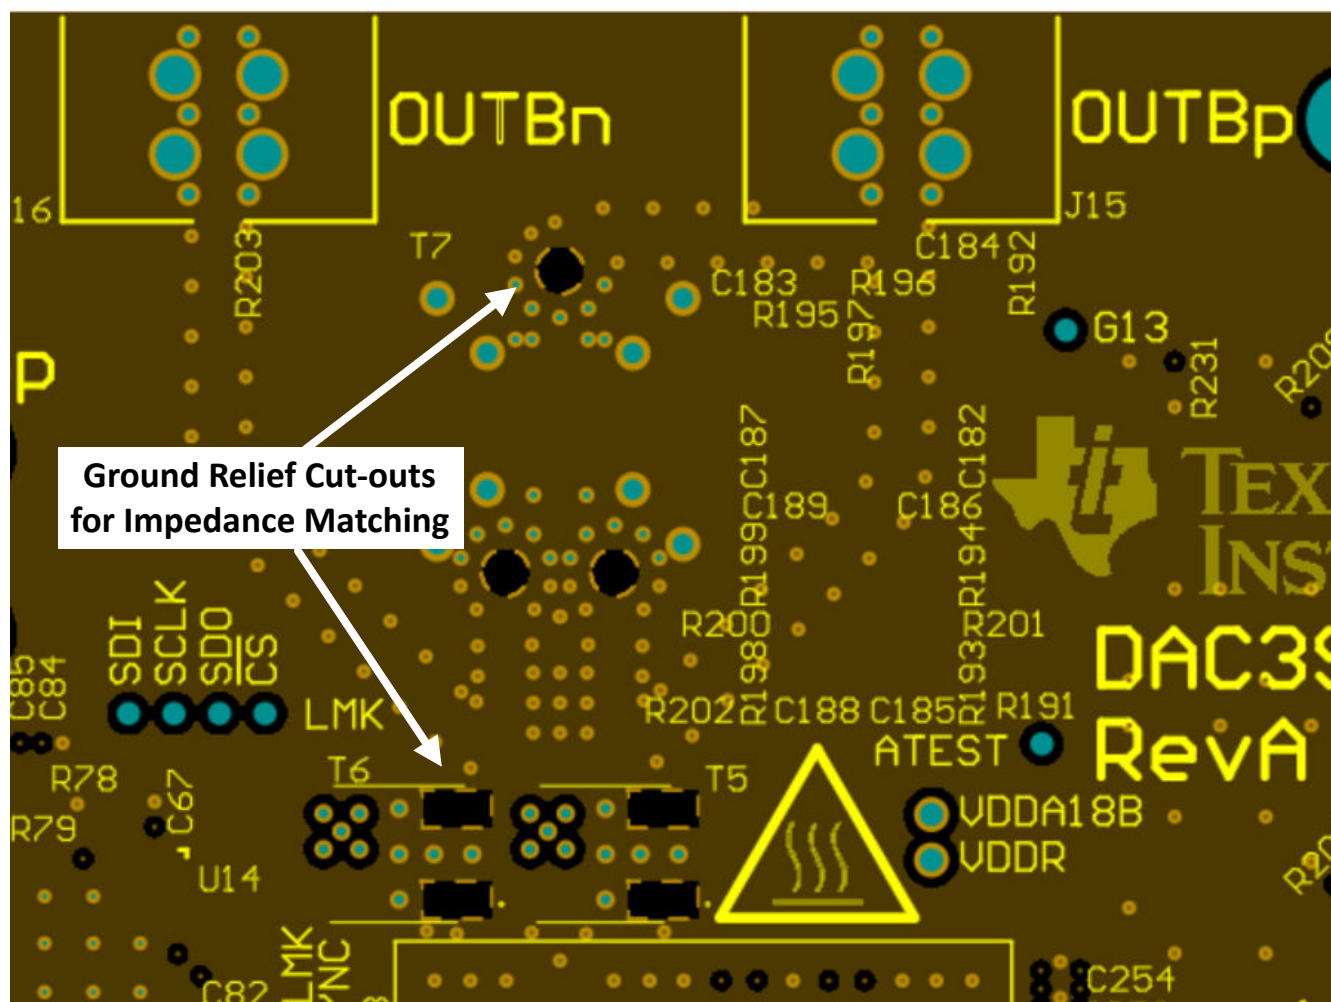
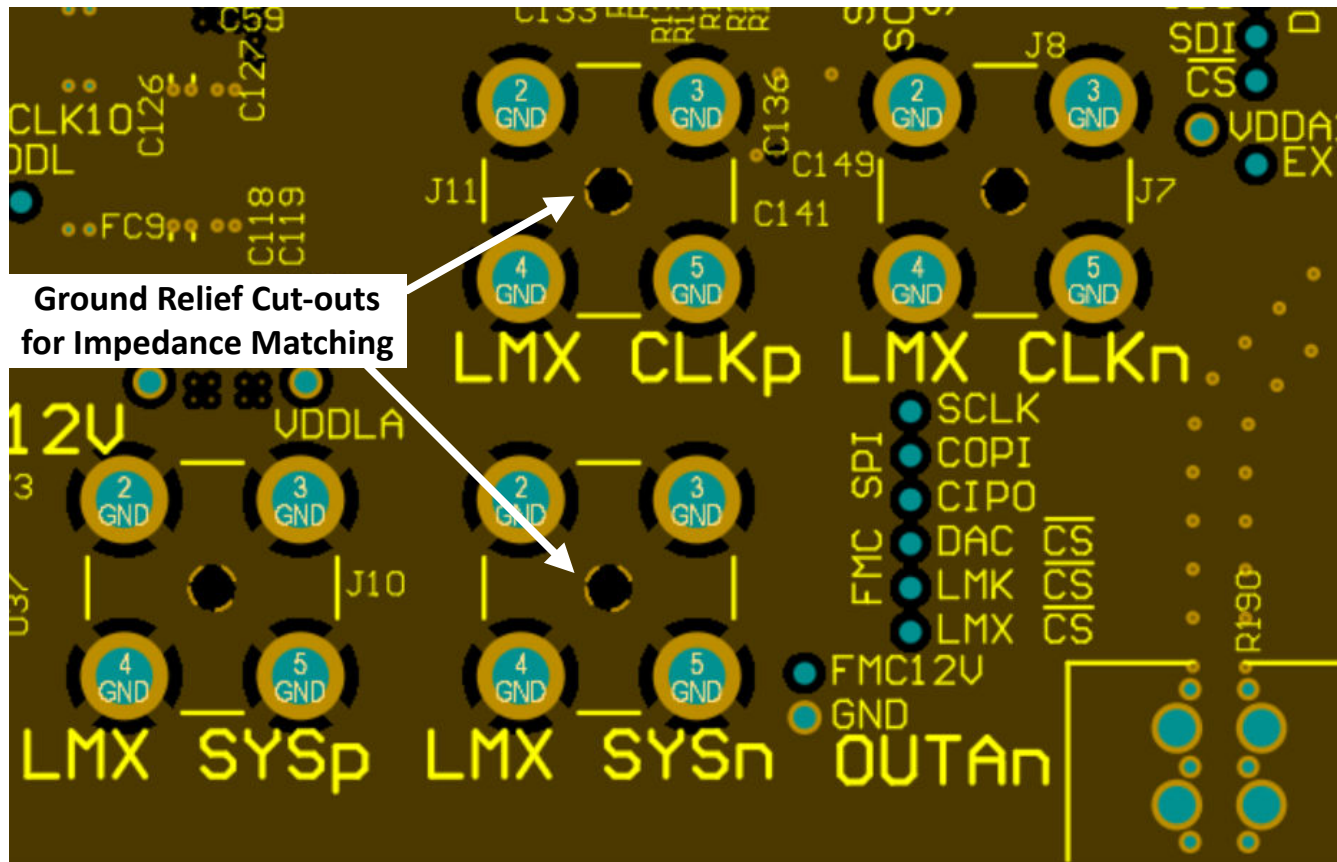

Figure 8-24. Ground Cut-outs below Balun and Bias-T Pins
Figure 8-25. Ground Cut-out Below SMA Connector Center Pin
5. Incorporate any ground plane cutouts necessary at component landing pads, ie – SMA connectors, baluns, etc., to avoid impedance discontinuities at these locations. Cut-outs below these landing pads on one or multiple ground planes to achieve a pad size or stackup height that achieves the needed 50-Ω, single-ended impedance. See Figure 8-24 and Figure 8-25 as an examples.